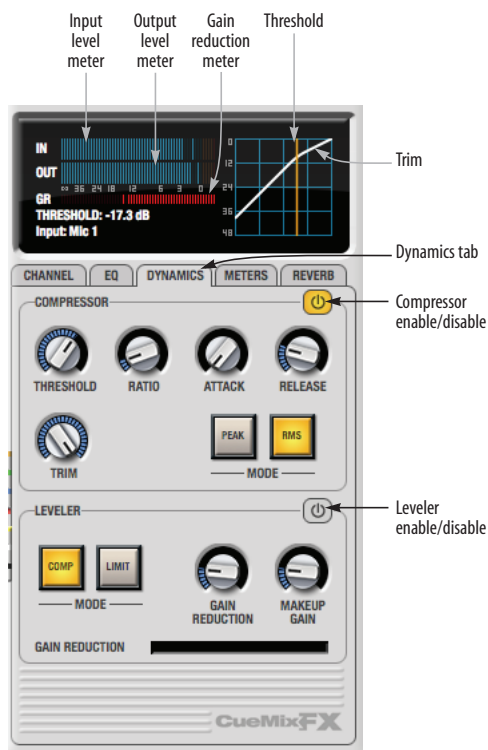

Figure 10-21: The Dynamics tab.
The Dynamics tab (Figure 10-21) displays the Dynamics processing settings for the input or output channel that currently has the focus. Click any focus button in the Inputs or Outputs tab to view the Dynamics tab settings for the channel.
Each input and output channel has a global *Dynamics enable/disable* button (Figure 10-3 and Figure 10-6). This button enables or disables all dynamics processing for the channel. In addition, the Dynamics tab has two different dynamics processors, the Compressor and Leveler, which can be individually enabled or disabled (Figure 10-21) for the channel.
The *Compressor* (Figure 10-21) lowers the level of the input when it is above the threshold. The amount of attenuation is determined by the *Ratio* and the input level. If the input is 6 dB above the *Threshold* and the Ratio is 3:1, then the output will be 2 dB above the Threshold. When the input level goes above the threshold, the attenuation is added gradually to reduce distortion. The rate at which the attenuation is added is determined by the *Attack* parameter. Likewise, when the input level falls below the Threshold, the attenuation is removed gradually. The rate at which the attenuation is removed is determined by the *Release* parameter. Long Release times may cause the audio to drop out briefly when a soft passage follows a loud passage. Short Release times may cause the attenuation to pump when the average input level quickly fluctuates above and below the Threshold.
The Threshold can be adjusted by turning the Threshold knob or by dragging the Threshold line directly in the compressor graph (Figure 10-21).
The *Input Level* meter (Figure 10-21) shows the level of the input signal before it enters the compressor. It shows either the peak level or the RMS level, depending on which mode is currently chosen.
The Gain reduction (*GR*) level meter (Figure 10-21) displays the current amount of attenuation applied by the compressor.
The *Output Level* meter (Figure 10-21) displays the peaks of the output signal. Trim is applied before the Output Level meter.
The Leveler™ (Figure 10-21) provides an accurate model of the legendary Teletronix™ LA-2A® optical compressor, known for its unique and highly sought-after Automatic Gain Control (AGC) characteristics. The 828mk3 Leveler faithfully models the LA-2A using the on-board DSP with 32-bit floating point precision.
The *Comp* and *Limit* buttons (Figure 10-21) model the original LA-2A Limit/Compress mode switch. The effect is very subtle, with the Limit option behaving only slightly more like a limiter than a compressor. The switch increases the level of the input to the AGC model and runs the attenuator at a slightly lower level. The Leveler then responds more strongly to transients, but otherwise still behaves like a leveling amplifier.
*Gain Reduction* (Figure 10-21) sets the strength of the signal sent to the AGC model.
*Makeup gain* (Figure 10-21) amplifies the output signal to make up for gain reduction.